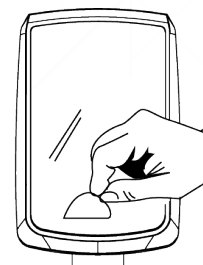

Figure K-5
- Use the soft card provided to push trapped air bubbles from the center of the screen to the edge (see Figure K-5). Small bubbles should go away within 48 hours.